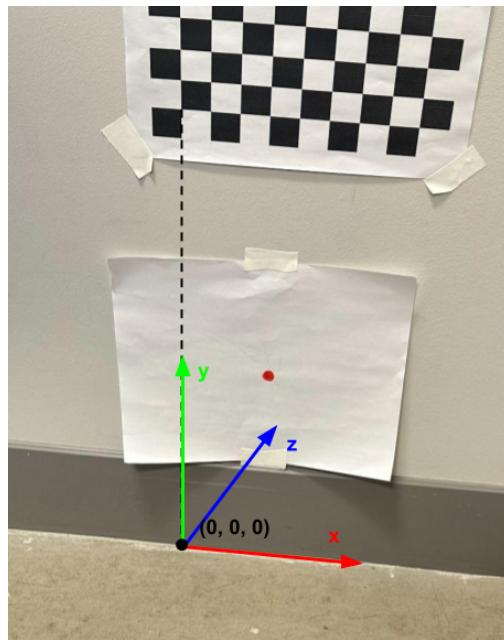

Figure 1: *World coordinate system*
The first step, before the main control loop, was to calibrate the camera. We used a printed chessboard taped to the same wall as the paper with the dot, and we assigned each chessboard corner a real-world coordinate (see Fig. 1). We used OpenCV's `findChessboardCorners`
- **ROBOT_X, ROBOT_Y, ROBOT_Z**: This is the distance from the world origin (see Fig. 1). Note that **ROBOT_Z** is the distance between the robot center and the wall (should be negative), while **ROBOT_Y** is the distance between the robot center and the floor.
- **CHECKER_SIZE, CHECKERBOARD_HEIGHT, CHECKER_WIDTH, CHECKER_HEIGHT**: **CHECKER_WIDTH** and **CHECKER_HEIGHT** should be the number of checkers in the board **minus one** (they represent the number of inner corners). **CHECKERBOARD_HEIGHT** should be distance between the floor and the inner bottom left corner (see Fig. 1).